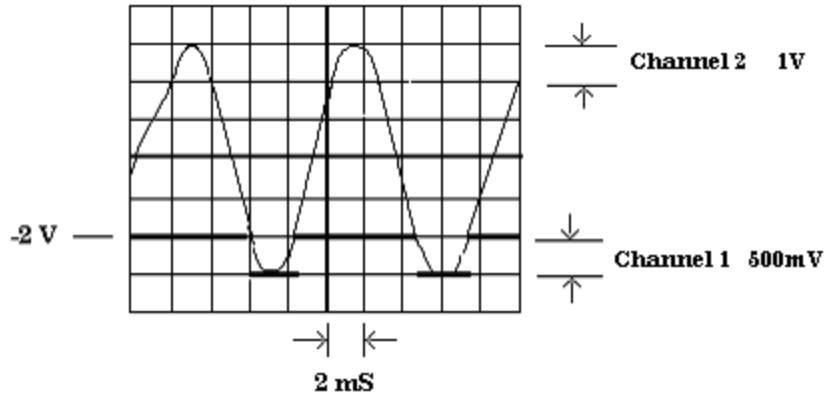

Figure 5. Remote trigger level - 2 V.
(12) Move oscilloscope **Vertical 1** connection from TI CHANNEL B MARKER OUTPUT to TI CHANNEL A MARKER OUTPUT.
(13) Repeat (11) above.
(14) Execute TI command string PF4G6S1S3A379-200*B37-200*R.
(15) Adjust oscilloscope **Vertical 1** control so that the top of TI marker output waveform on channel 1 (fig. 5) just barely intersects both positive and negative slopes of sine wave on channel 2 (fig. 5). If this intersection does not occur at $-2.00\text{ V} \pm 35\text{ mV}$ on sine wave, as shown in fig. 5, perform **b** below.